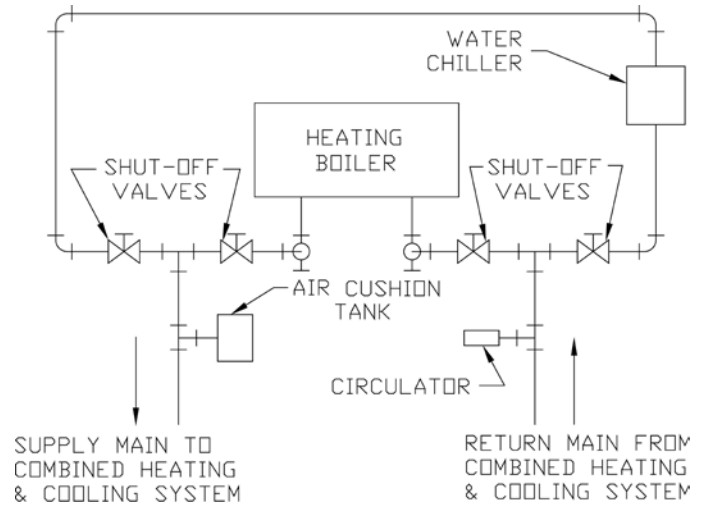

Figure 3: Recommended Piping for Combination Heating & Cooling (Refrigeration) Systems
- E. If boiler is used in connection with refrigeration systems, boiler must be installed with chilled medium piped in parallel with the heating boiler using appropriate valves to prevent chilled medium from entering boiler. See Figure 3. Also consult Residential Hydronic Heating Installation and Design I=B=R Guide.